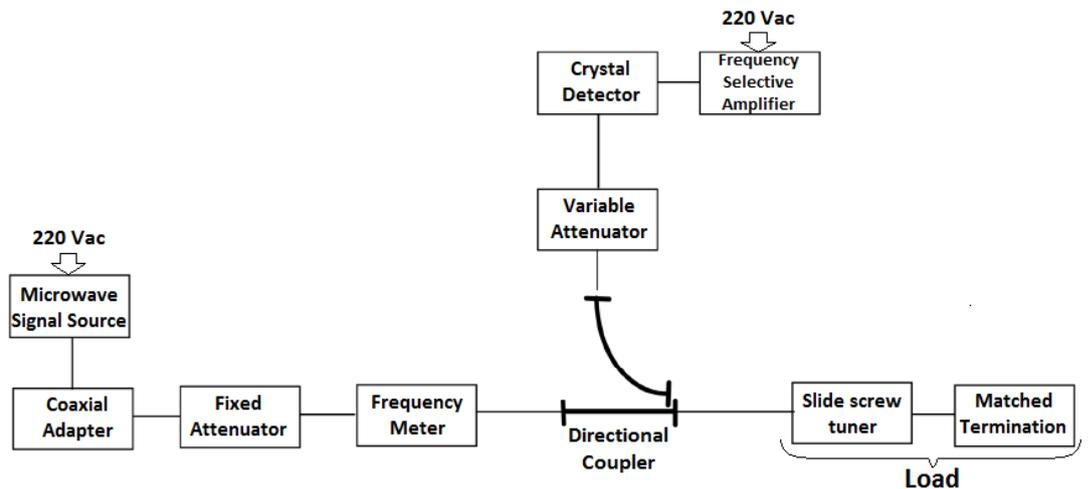

Figure 4.7.10. Setup diagram for return loss measurement.
- (1) Set up the equipment as shown in Figure 4.7.10 and/or Figure 4.7.11.
- (2) Set the probe depth of the Slide Screw Tuner to 5 mm.
- (3) Set the attenuator to (A5). Read the SWR indicator. Use this as a reference.
- (4) Change the Variable Attenuator to the maximum attenuation. Replace the load with a short.
- (5) Decrease the attenuation until the reference level in (3) is obtained. Record the Variable Attenuator position (A5). In case it is necessary to change the range on the SWR indicator, add the increased value to the position of the attenuator to get A6.
- (6) The return loss =  $(A5 - A6 + n \times 10)$  dB